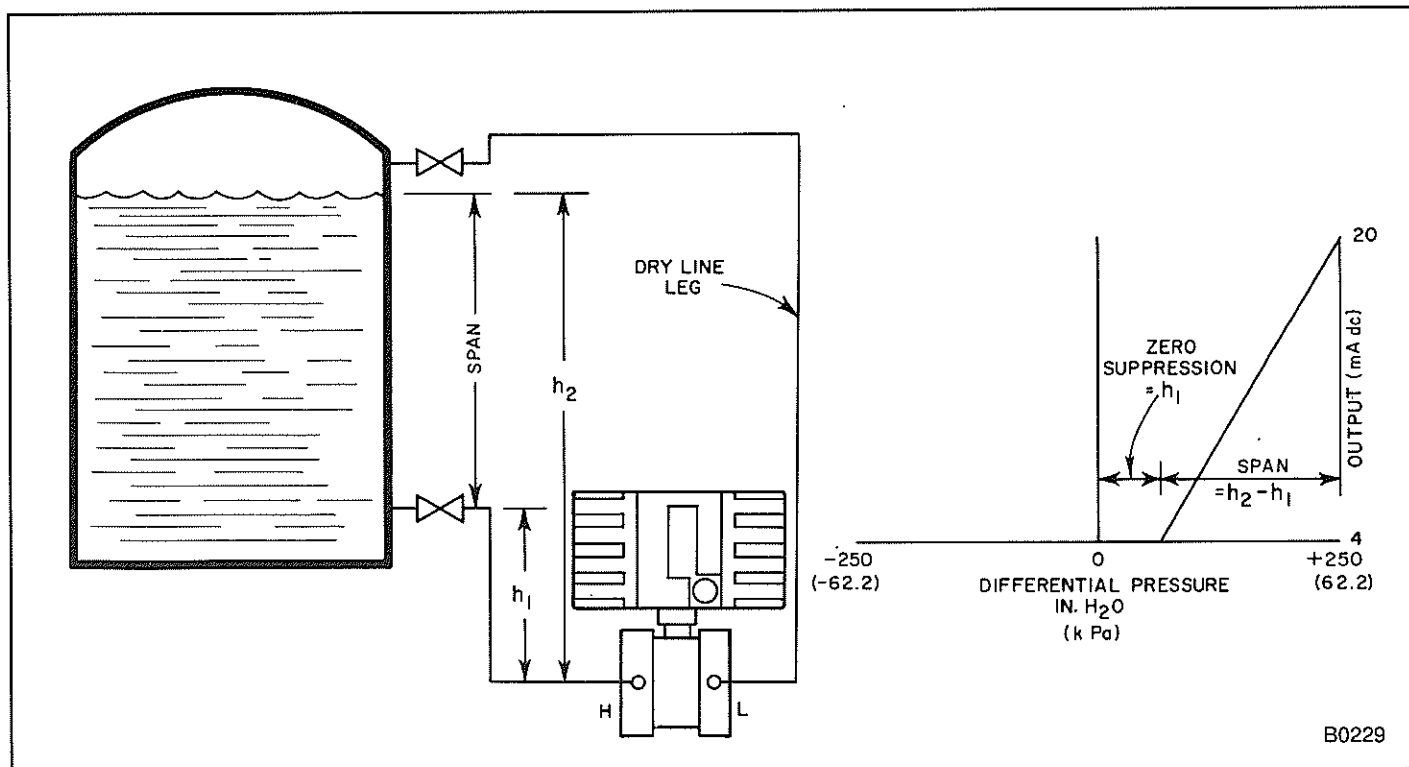
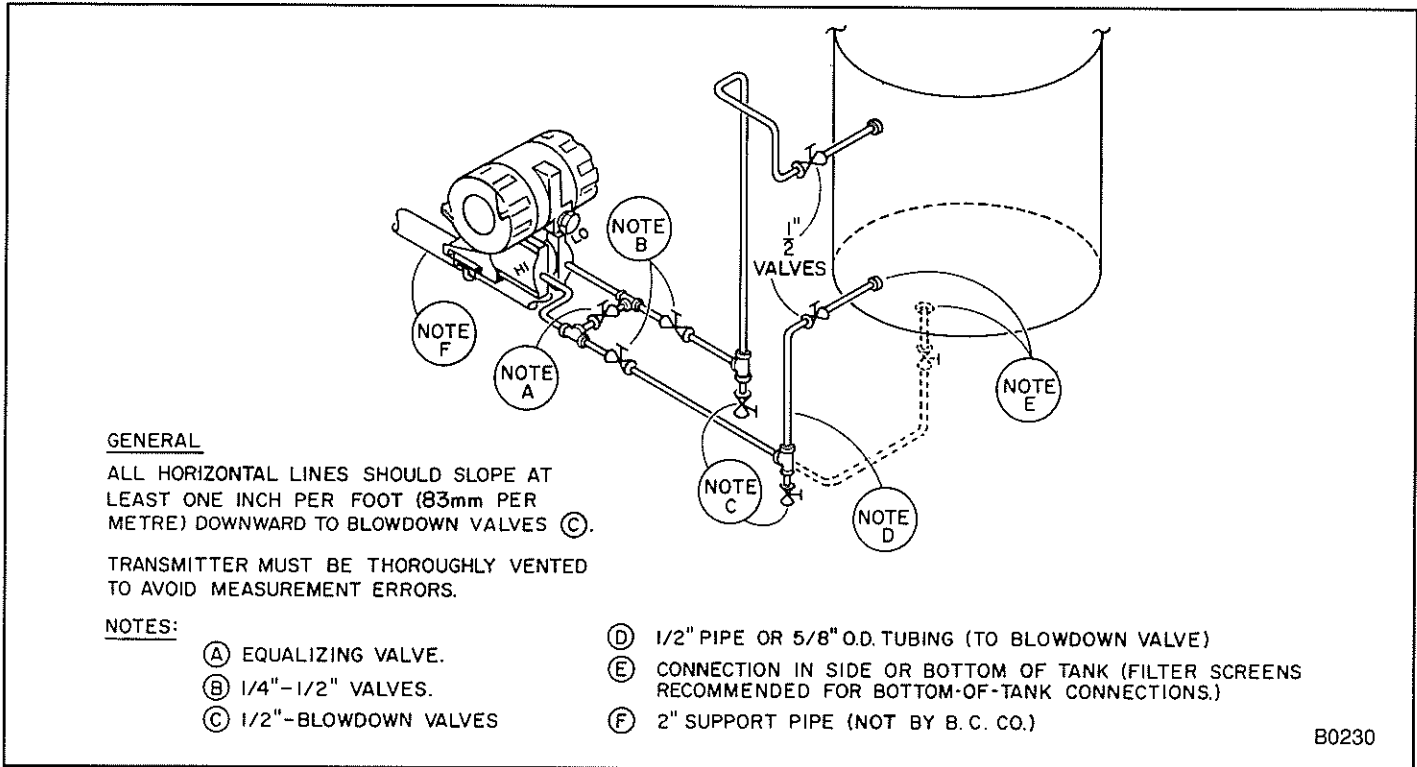

FIGURE 17 – Example of Closed Tank, Noncondensing Atmosphere, Level Measurement
FIGURE 18 – Connecting Piping for Closed Tank, Noncondensing Atmosphere, Level Measurement
If the atmosphere above the liquid is non-condensable (Figure 17), the pressure line from the top connection will be dry. The transmitter responds only to the pressure of the fluid measured at a lower tap, and calculations are the same as for open tank level measurements. The transmitter flange is the high (H) side of the transmitter, and the pressure line from the top connection is connected to the low side of the transmitter (refer to Figure 18 for connecting piping arrangements). If the zero point of the desired level is above the transmitter, the transmitter zero must be suppressed to elevate the range.